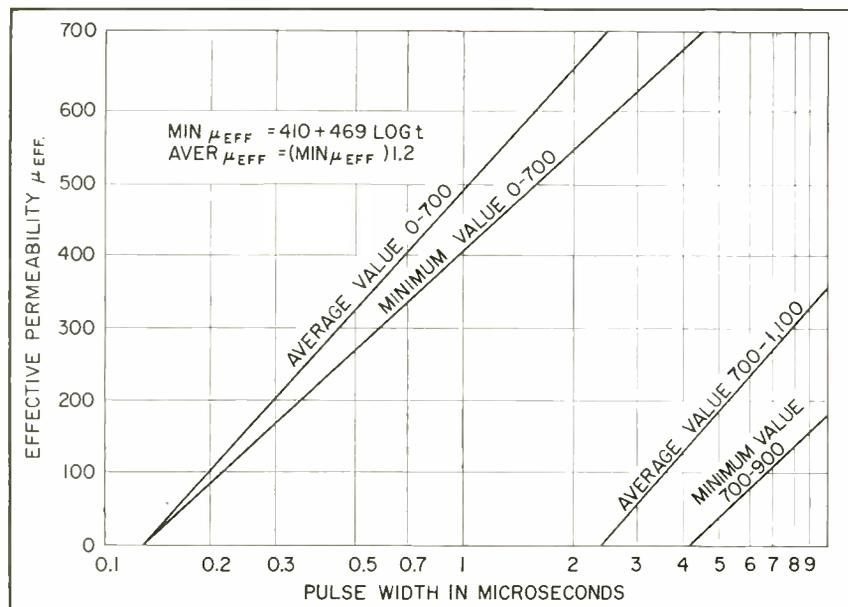

FIG. 6—Effective permeability is plotted as a function of pulse width
**FIG. 6—Calibration input circuit. Calibration consists of setting clock to an arbitrary advanced time setting, shorting standard frequency input pulses to the counting channel and then opening the input at exact time previously set to start continuous counting**
Calibration of the time-of-event indicator consists of setting it to an arbitrary advanced time setting, with the standard frequency input pulses to the counting channel shorted and then unshorting the input at exactly the time previously set on the indicator to start the continuous time counting. The calibration input circuit is shown in Fig. 6. Both the celestial and solar indicators are started by the contactor opening in the Synchronometer. Less than 10 millisecc is required for the relay release time.
The pulse permeability curve of Fig. 6, used in conjunction with the formula